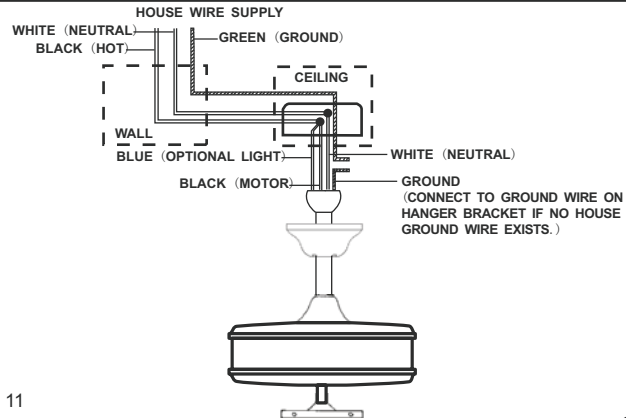

Fig. 11
Step 1. Connect the black (hot) wire from the ceiling to the black and the blue wires from the fan. Connect the white (Neutral) wire from the ceiling to the white wire from the fan. (Fig 11)
Step 2. If your outlet has a ground wire (Green or Bare Copper) connect the fan ground wires ((from hanger ball and hanger bracket) to it; otherwise connect the fan ground wire wires from the hanger ball and hanger bracket together. (Fig. 11)